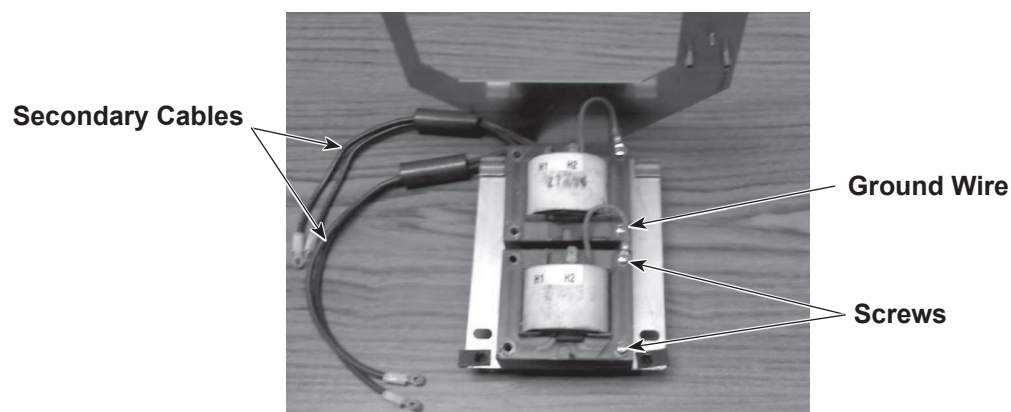

Figure 6-22 Transformer Installation
7. See Figure 6-22. Install the new transformer on the bracket. If replacing the outer transformer, route the secondary cables under the inner transformer.
9. See Figure 6-22. Arrange the secondary cable ferrites of both transformers as shown. Install cable ties below the ferrites to prevent them from sliding down the secondary cables, then install another cable tie joining both pairs of secondary cables approximately 2 in. (51 mm) above the ferrites.